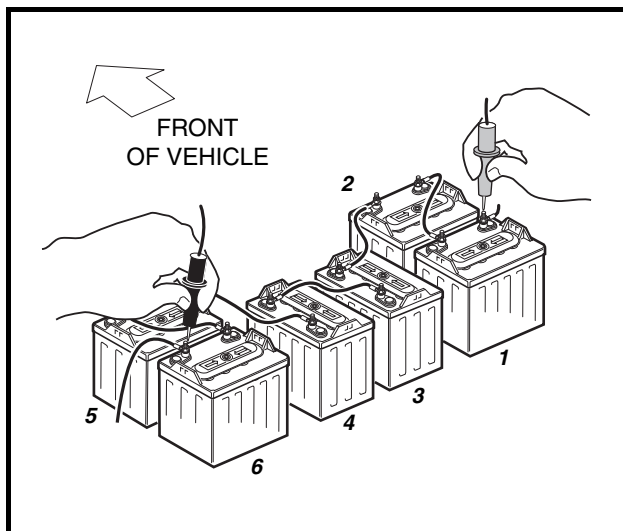

Figure 11-9 Battery Voltage Check – IQ System Turf 1 and Carryall 1 6x8-Volt Configuration
1. With batteries connected and using a multimeter set to 200 volts DC, place red (+) probe on the positive (+) post of the first battery in the series and the black (–) probe on the negative (–) post of the last battery in the series (**Figure 11-9, Page 11-17**) and (**Figure 11-10, Page 11-17**). The multimeter should indicate at least 48 volts with the batteries fully charged. If not, check for loose battery connections or a battery installed in reverse polarity. Refer to Section 14 – Batteries, for further details on battery testing.